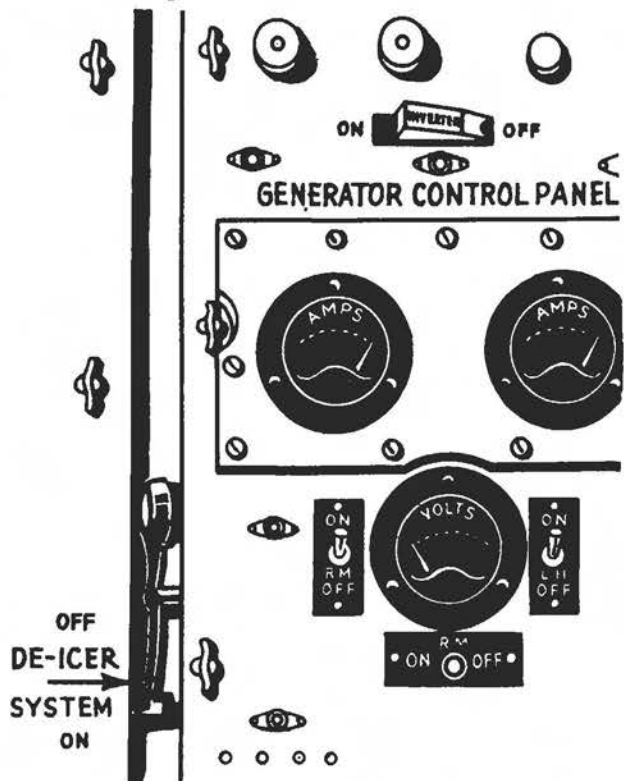

Figure 38 — Generator Control Panel
- (7) Check to see that main inverter cut-off switch has been turned "ON."
- (8) Check to see that de-icer lever is set to "OFF" position (navigator's compartment). (See figure 38.)
- (6) Check to see that generators are turned "ON." (See figure 38.)